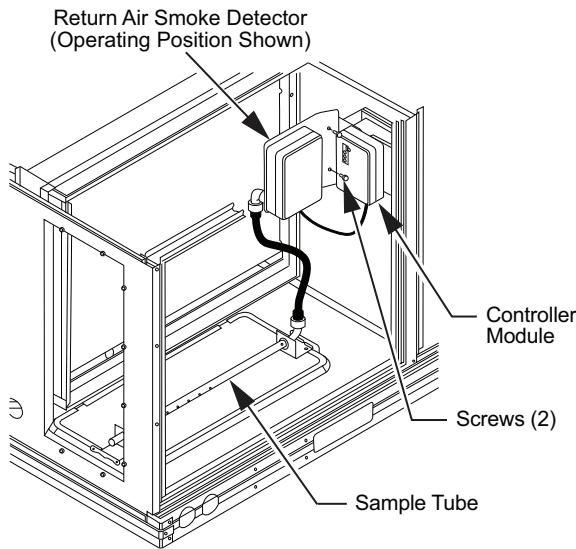

Fig. 46 – Return Air Smoke Detector Operating Position
3. Rotate the detector plate so the sensor is facing outwards and the sampling tube connection is on the bottom. See Fig. 46.